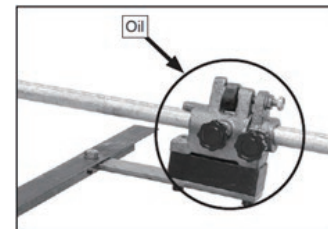

Figure 10
- Micro adjusting stop assembly (59, 61, 62). (See Figure 10)